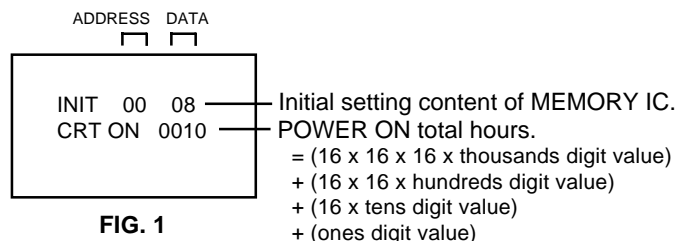

FIG. 1
2. Press both VOL. DOWN button on the set and Channel button (6) on the remote control for more than 1 second. ADDRESS and DATA should appear as FIG 1.